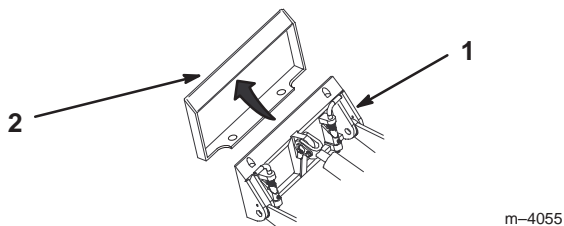

Figure 17
- Position mount plate into the upper lip of the attachment receiver plate (Fig. 17).